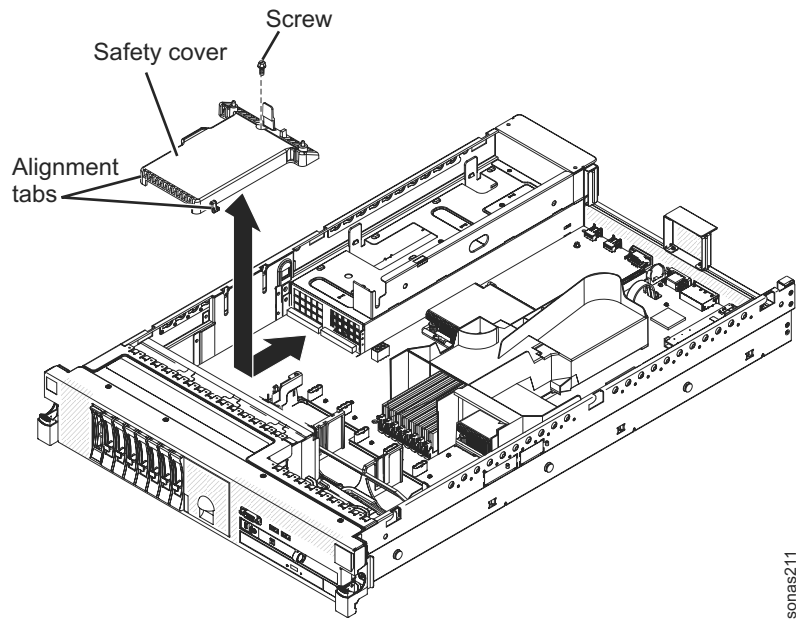

Figure 45. 240 VA safety cover
1. Line up and insert the tabs on the bottom of the safety cover into the slots on the system board. See Figure 45 on page 155.